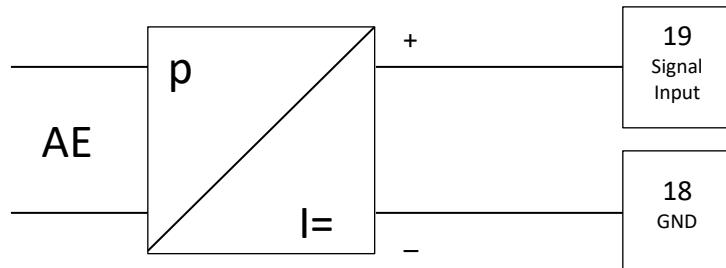

Figure 15: Connection of an active transmitter
**Active transmitters** are connected with their plus terminal to the signal input contact of the respective analog input. The minus terminal is connected to the respective GND contact. The Figure 15 shows an example of a pressure transmitter at the 3rd analog input. “AE” stands for the auxiliary energy with which the transmitter is supplied.